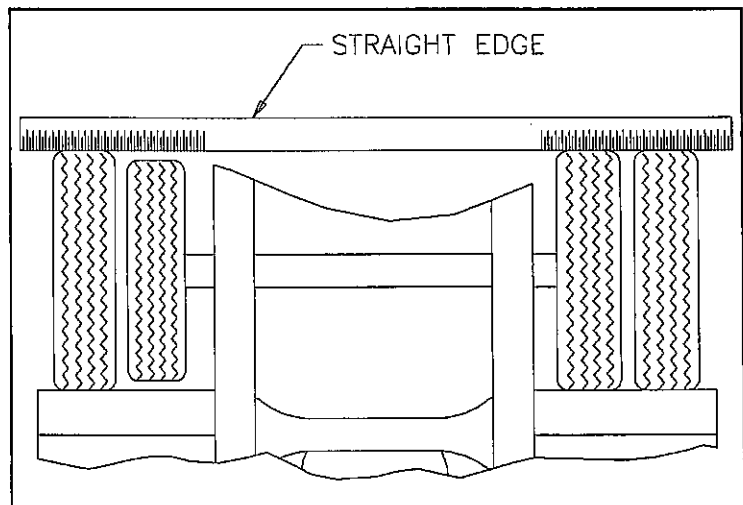

Fig. 4-18 Straight Edge Method
**b. Straight Edge or String Method:** (This method can not be used if tire and wheel assemblies are not mounted on the axle.) Jack semitrailer up until the wheels are off of the ground. Hold a straight edge against the tires of both ends of an axle. A gap at one tire indicates a smaller tire. A maximum of  $1/8$ " gap is allowed (See **Figure 4-18**).